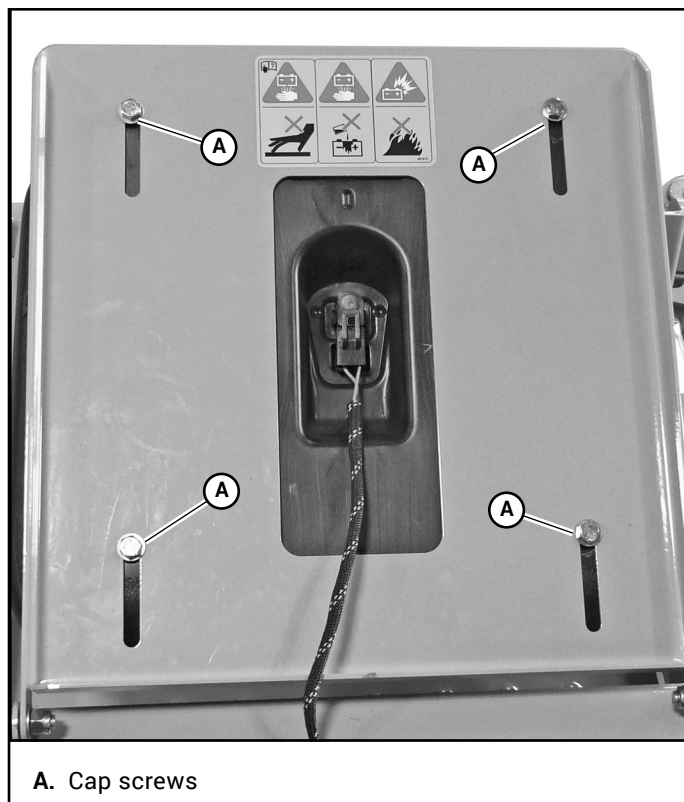

Figure 4-9
2. Loosen the four cap screws on the underneath side of the seat platform. Figure 4-9
4. Tighten the cap screws. Torque to 7 ft-lbs (9 N•m). Figure 4-9